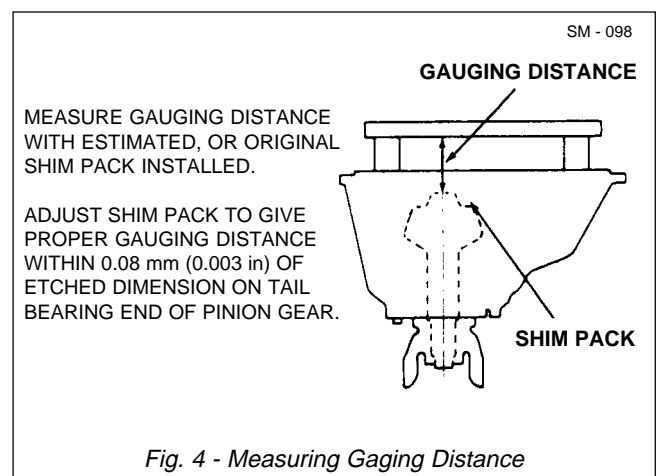

Fig. 4 - Measuring Gauging Distance
1. Determine the required shim pack (18) thickness so as to give the proper gaging distance within 0.08 mm (0.003 in) etched on pinion gear (15) tail shaft (see Fig. 4) as follows: